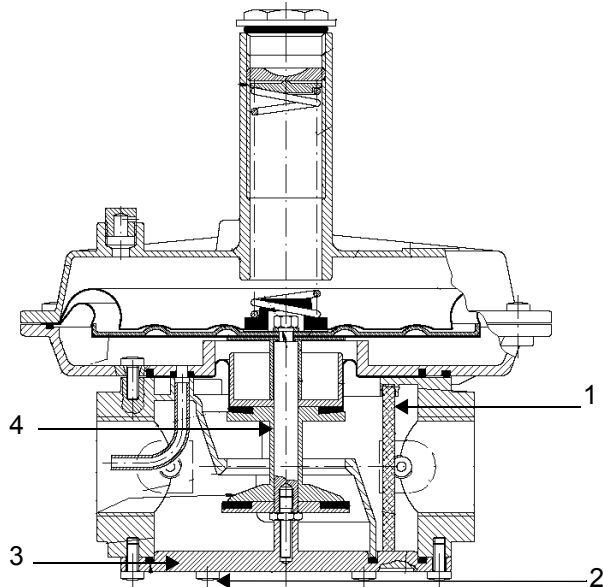

Fig. 18 - threaded body
To check the filtering part (1) on threaded bodies (see picture Fig. 18):
- remove the filtering part (1), clean it with water and soap, blow it with compressed air or replace it if necessary;
- reassemble the filtering part in its initial position checking that it is placed in its own slots (see picture Fig. 18);
- reassemble the bottom cover (3), being sure that the main bolt is centered in the bottom cover slot.